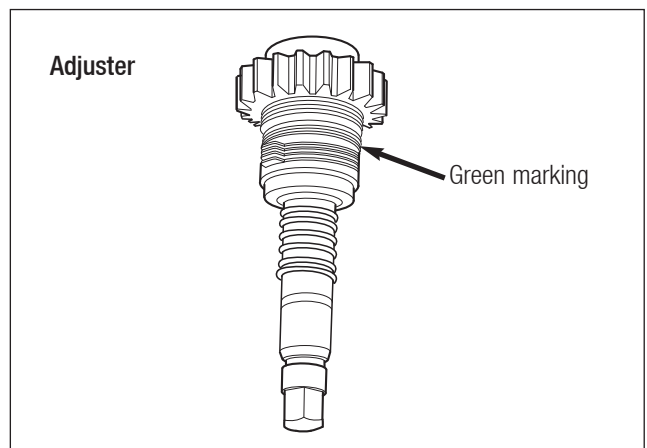

Fig. 13.4
- LH adjuster assemblies are identified by a green marking on the wrap spring (Fig 13.4).